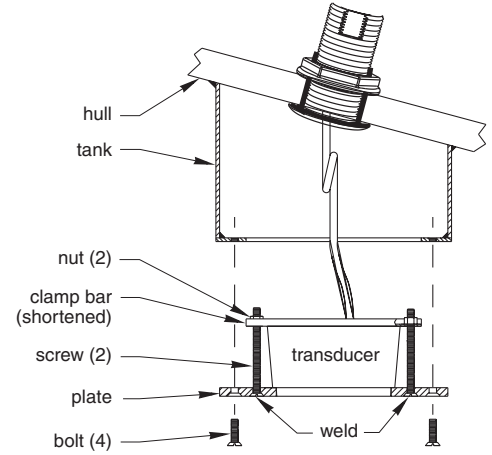

Figure 9. M172 tank mount
11. It is recommended that the clamp bar be shortened and re-drilled to accommodate two bolts. They will secure the transducer to threaded stand-offs that are welded to the floor of the tank (see Figure 9). Check for leaks (see "Checking for Leaks" on page 3).